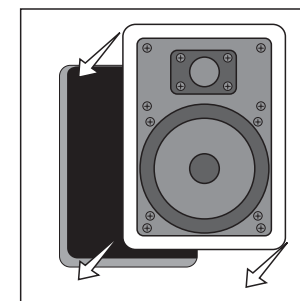

Figure 13—Place the speaker carefully into the cutout.
6. Loosen the rotating wall clamps by unscrewing them. Make sure that the rotating wall clamps are flipped inward so that your speaker fits into your cutout without nicking your wall. Then place the speaker carefully into the cutout (figure 13).